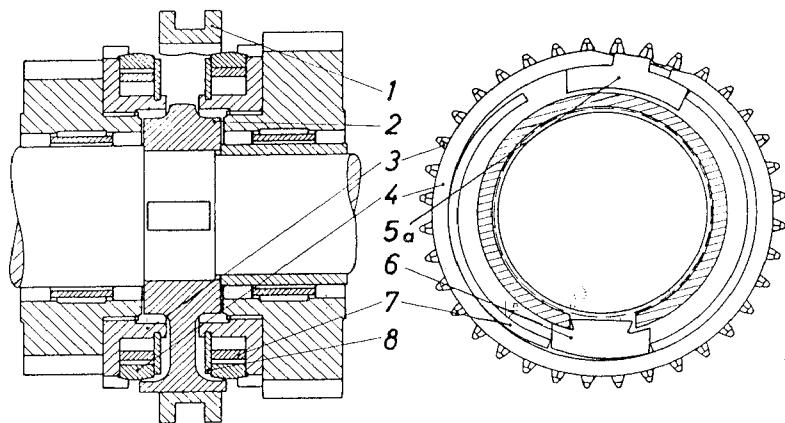

Fig. 2
As illustrated in Fig. 2, the friction contact between the sliding sleeve (1) and the synchronizing ring (4) causes the synchronizing ring to slip somewhat, with one of its ends coming to rest against the slider (5a). The slider pushes against one of the brake band segments (7) which, in turn, presses against the inner surface of the sliding sleeve (4), with the stop (6) acting as its anchor. As a result, radial thrust is exerted upon the sliding sleeve (4) by the brake band segment (7) and by the stop which pivots on its base.